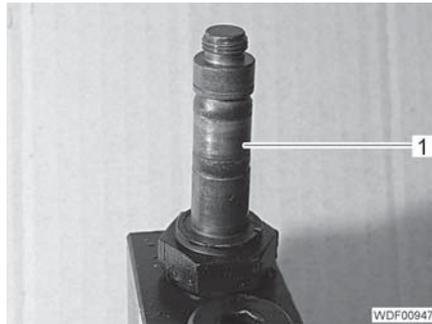

Fig. 176 Pressure relief valve
- Unscrew the pressure relief valve (Fig. 176,1).
- Screw in the pressure relief valve (Fig. 176,1) and tighten hand-tight.